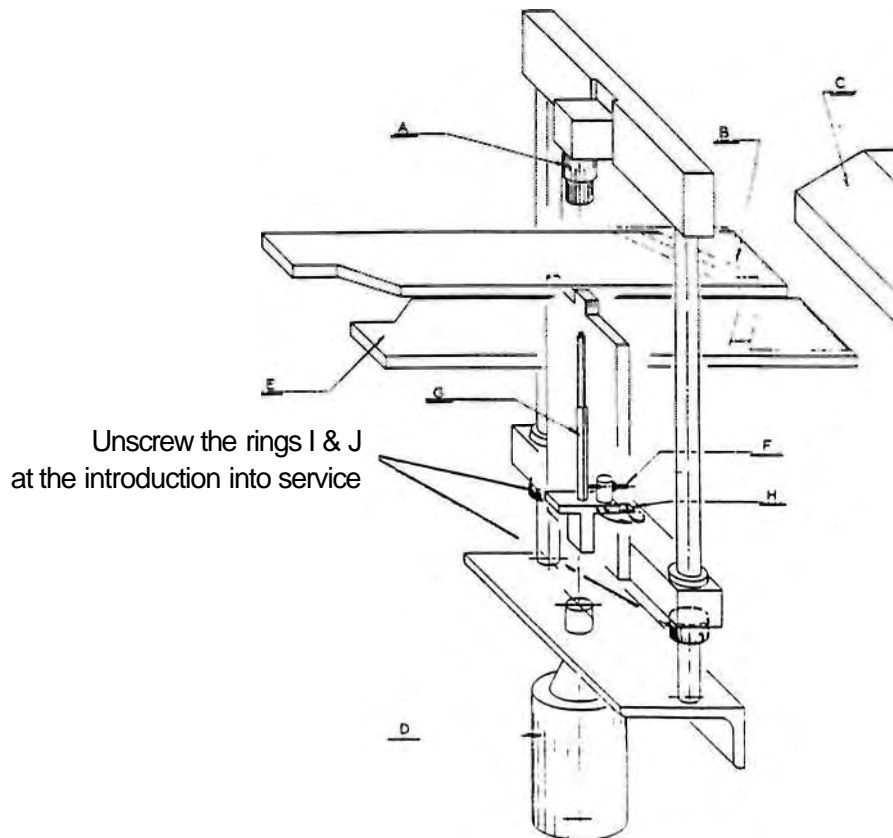

FIGURE 2
- 3 - Reposition bracket E in the normal position since this was lowered on tables M and M' for transport (see Fig. 2).
- Unlock rings I and J on vertical columns K and L (Fig. 2).